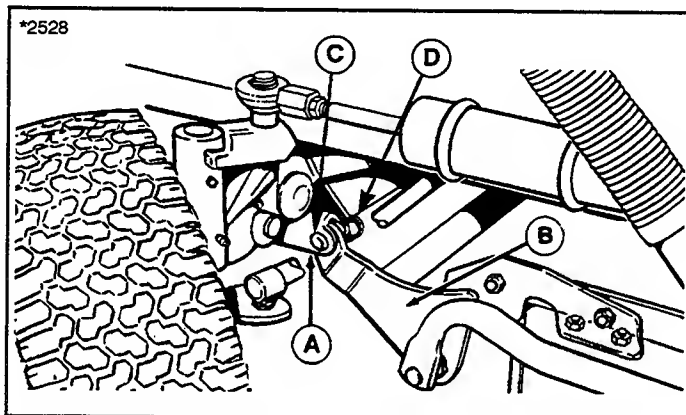

Figure 4. Mower Hitch
2. For now, align the mower hitch with the tractor hitch as shown in figure 4. Connecting the hitch comes later in the installation.
- Use the following procedure to connect the hitch arms (B, figure 4).
- Use your right hand to apply pressure on the mower height control quadrant brace in order to maneuver mower hitch arm (B, figure 4) into the tractor hitch (A, figure 4). When aligned, use your left hand to insert pins through mower hitch arms and tractor hitch. Insert pins so the hole is vertical to aid in hairpin clip installation. Install hairpin clips in both pins.